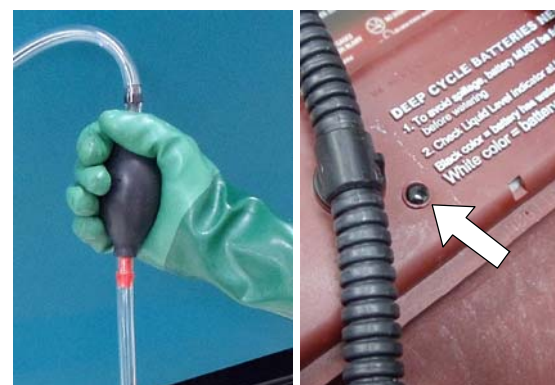

FIG. 50
5. Squeeze the bulb on the hand pump hose until firm (Figure 50). The level indicators will turn black when full.